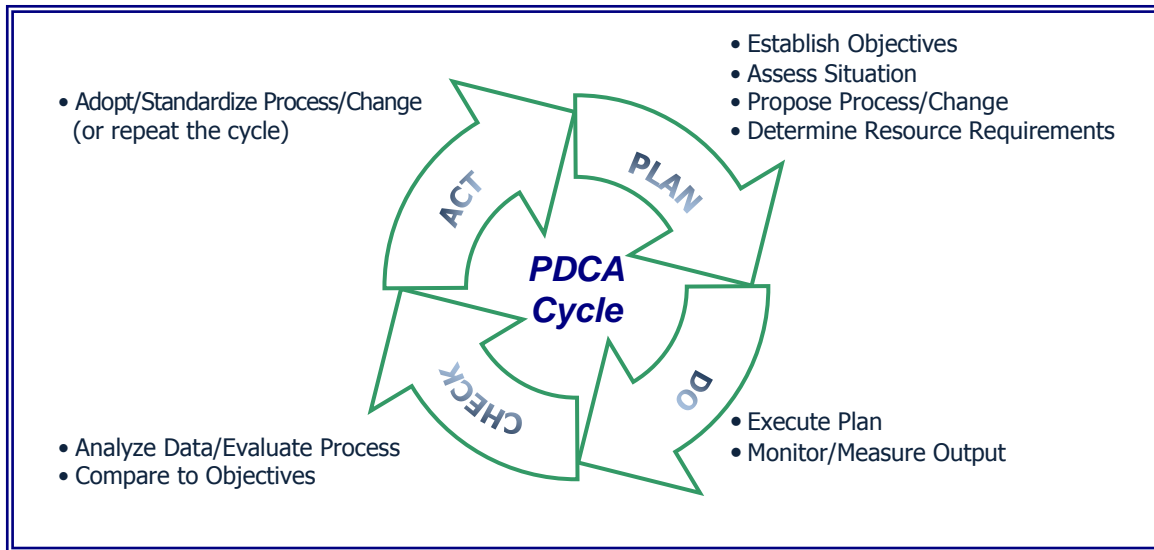

Figure 1
- 8.1.3 The QMS is based on a process approach to quality management and JPMC applies continuous process improvement methodology, i.e. the Plan-Do-Check-Act Cycle (Figure 1), to ensure its on-going effectiveness.